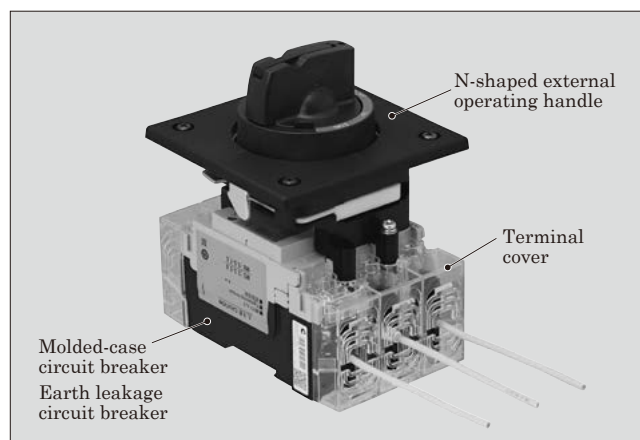

Fig.1 N-shaped external operating handle and terminal cover
In response to these needs, we simultaneously developed N-shaped external operating handles (directly attached to the circuit breaker) and terminal covers for the “G-TWIN Series” of 32 to 100 ampere frames (AF). Launched in December 2021, these accessories provide latest protection structure for electrical safety (see Fig. 1).